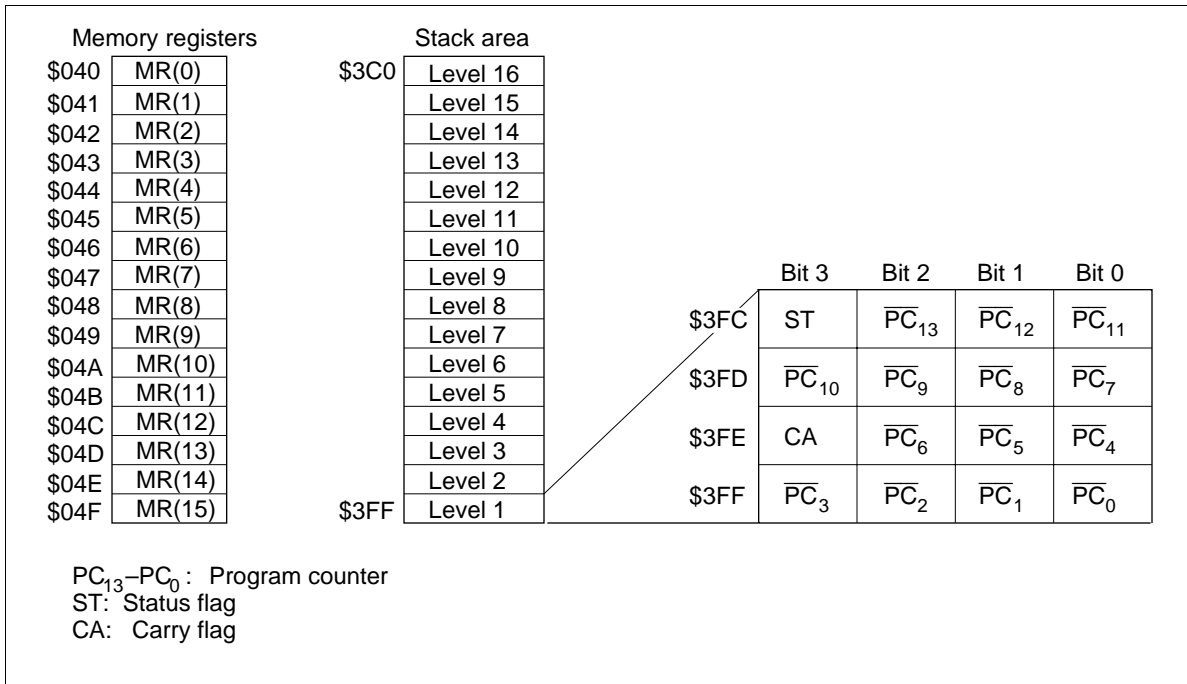

Figure 6 Configuration of Memory Registers and Stack Area, and Stack Position
**Memory Register (MR) Area (\$040–\$04F):** Consisting of 16 addresses, this area (MR0–MR15) can be accessed by register-register instructions (LAMR and XMRA). The structure is shown in figure 6.
**Stack Area (\$3C0–\$3FF):** Used for saving the contents of the program counter (PC), status flag (ST), and carry flag (CA) at subroutine call (CAL or CALL instruction) and for interrupts. This area can be used as a 16-level nesting subroutine stack in which one level requires four digits. The data to be saved and the save conditions are shown in figure 6.